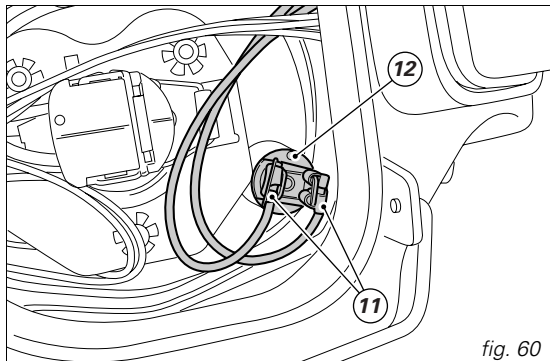

fig. 60
Disconnect the connections (11) from terminals (fig. 60). Remove the parking light (12) from its seat and replace it with a new one with the same rating.